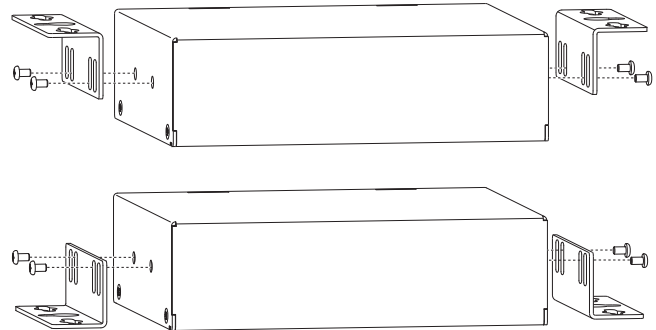

FIG. 4 Insert screws and tighten
1. Insert the #4-40 3/16 inch pan head screws (provided) per FIG. 4 and tighten. Brackets can either align flush with the top or with the bottom.
1. Attach the mounting brackets to the module according to the instructions for surface mounting (see FIG. 4).